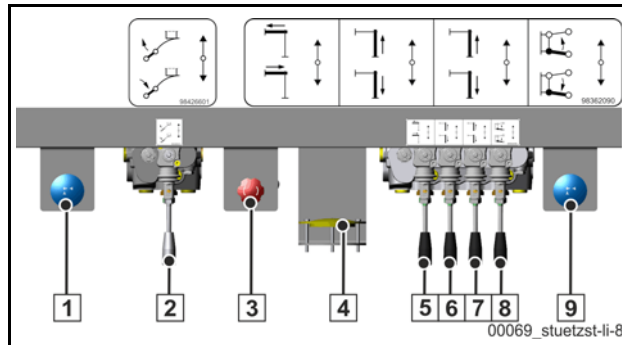

Fig. 258 Example illustration: Outrigger control block for model S65SXF, on the left in the direction of travel
In order to move the outrigger cylinders, the release button (**Fig. 256**); (6) (**Fig. 258**) next to the outrigger control block must be held down while the control lever is actuated.
Caption (Fig. 258)